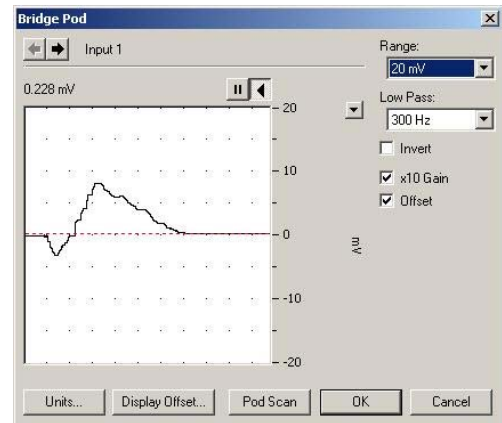

Figure 1. This Bridge Pod dialog box shows a signal that has been zeroed.
2. A dialog box will appear (Figure 1).
- Apply a low-pass filter in the Bridge Pod dialog box (Figure 1).
- Make sure the Offset button is checked in the Bridge Pod dialog box (Figure 1).